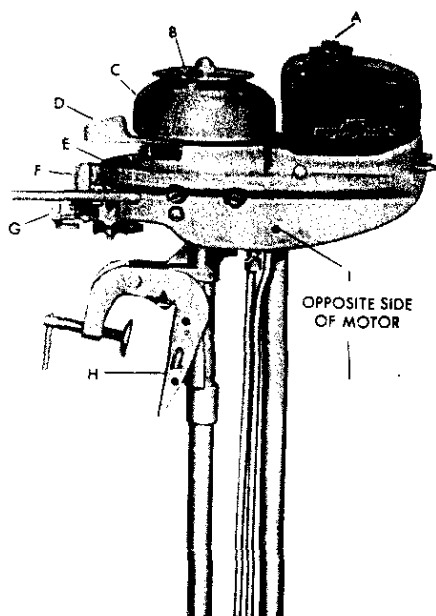

Fig. 1
**COLD MOTOR** — Open vent in center of Gas Tank Cap (A) Fig. 1. Open Gasoline Valve (I) Fig. 1. Advance Throttle (D) to **START** or slightly right of center. Open Main Adjusting Screw (G) to **RICH**. Attach Starting Rope. Depress Float Needle (E) until bowl starts to flood. Pull Starting Rope vigorously. Return Main Adjustment Screw (G) to **RUN** as soon as motor starts.
**WARM MOTOR** — With Air Vent (A) and Gasoline Valve (I) open, and Main Adjustment Screw at **RUN**, motor should start with one or two vigorous pulls of Starting Rope. If motor does not start promptly, Prime (or choke) by depressing float needle (E) as in cold motor procedure.